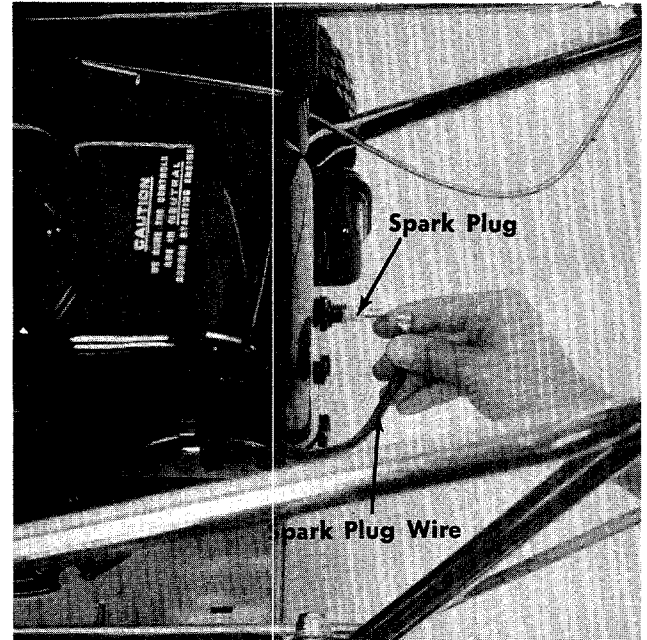

FIGURE 25. SPARK PLUG WIRE BEING REMOVED
Stop the engine and disconnect the spark plug wire from the spark plug before making any adjustments. See figure 25.
**CAUTION:** Be sure spark plug wire is disconnected and grounded. See figure 25.